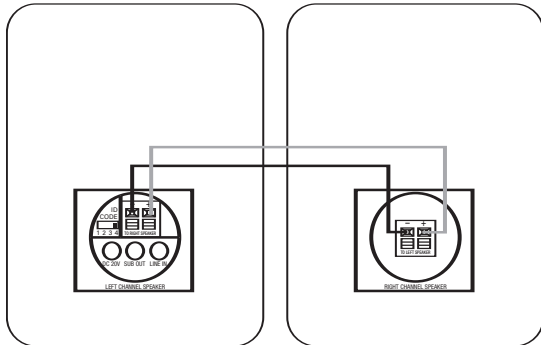

Figure 3.
Connect the speaker wire (included) to the push terminals on the active speaker ⑥ and the push terminals on the rear of the passive speaker ⑩. See Figure 3. Please note that the speaker wire supplied features a polarity stripe to help distinguish its two conductors. Use this polarity stripe to ensure that you are connecting the positive (+) terminal on one speaker to the positive (+) terminal on the other, and the negative (–) to the negative (–). It does not matter whether you use the striped conductor for connecting the positive (+) terminals or the negative (–) terminals.
Connect the speaker wire (included) to the push terminals on the active speaker ⑥ and the push terminals on the rear of the passive speaker ⑩, as shown in Figure 3. Please note that the speaker wire supplied features a polarity stripe to help distinguish its two conductors. Use this polarity stripe to ensure that you are connecting the positive (+) terminal on one speaker to the positive (+) terminal on the other, and the negative (–) to the negative (–). It does not matter whether you use the striped conductor for connecting the positive (+) terminals or the negative (–) terminals.
Connect the speaker wire (included) to the push terminals on the active speaker 6 and the push terminals on the rear of the passive speaker 10, as shown in Figure 3. Please note that the speaker wire supplied features a polarity stripe to help distinguish its two conductors. Use this polarity stripe to ensure that you are connecting the positive (+) terminal on one speaker to the positive (+) terminal on the other, and the negative (–) to the negative (–). It does not matter whether you use the striped conductor for connecting the positive (+) terminals or the negative (–) terminals.